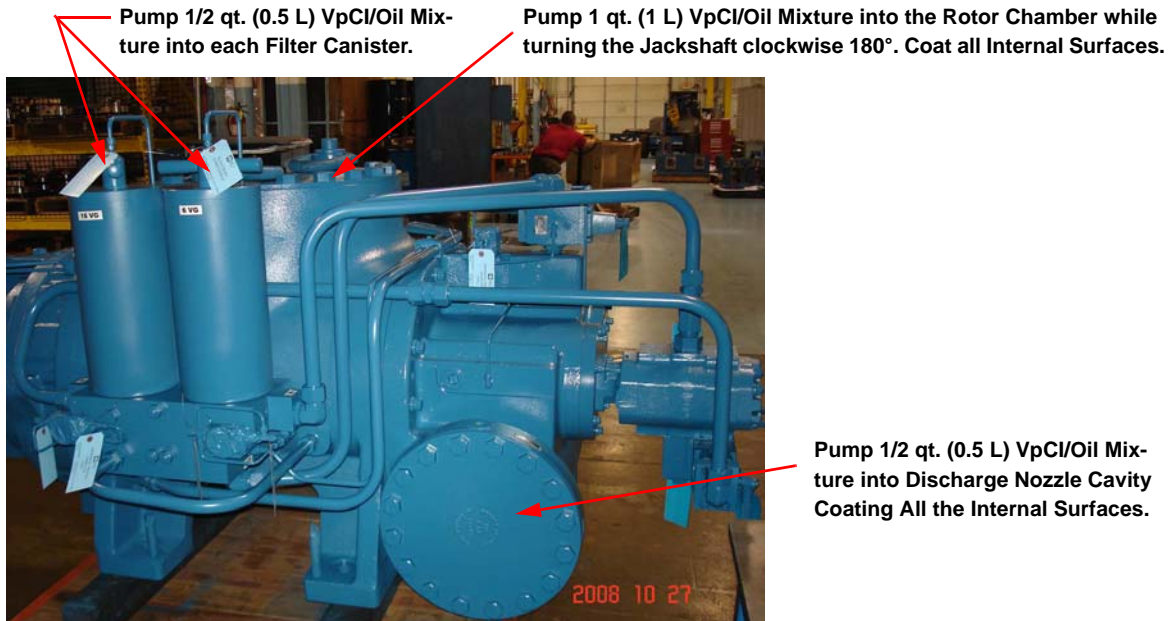

FIGURE 1: SIMPLEX OIL SYSTEM - INLET/DISCHARGE/OIL FILTER CANISTERS
- 3.8 Pump 1 quart (1 L) of the VpCI corrosion-inhibitor/oil mixture into the rotor housing via the inlet nozzle while rotating the jackshaft clockwise, 180°. Ensure that all internal surfaces of the rotor housing and exposed surfaces of the rotors are coated (see Figure 1).
3.9 Remove the two filter canister covers. Pump 1/2 quart (0.5 L) of the VpCI corrosion-inhibitor/oil mixture into each oil filter canister and replace filter canister covers (see Figure 1).
3.10 Pump 1/2 quart (0.5 L) of the VpCI corrosion-inhibitor/oil mixture into the discharge housing via the discharge nozzle. Ensure that all internal surfaces of the discharge housing are coated (see Figure 1).